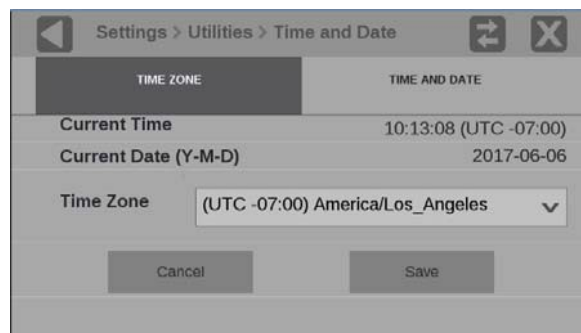

Figure 77: Time Zone submenu
3. Select **Time and Date** to open the submenu shown in Figure 77. The submenu has two tabs: TIME ZONE and TIME AND DATE.
4. Select **TIME ZONE** to open the submenu shown in Figure 77.